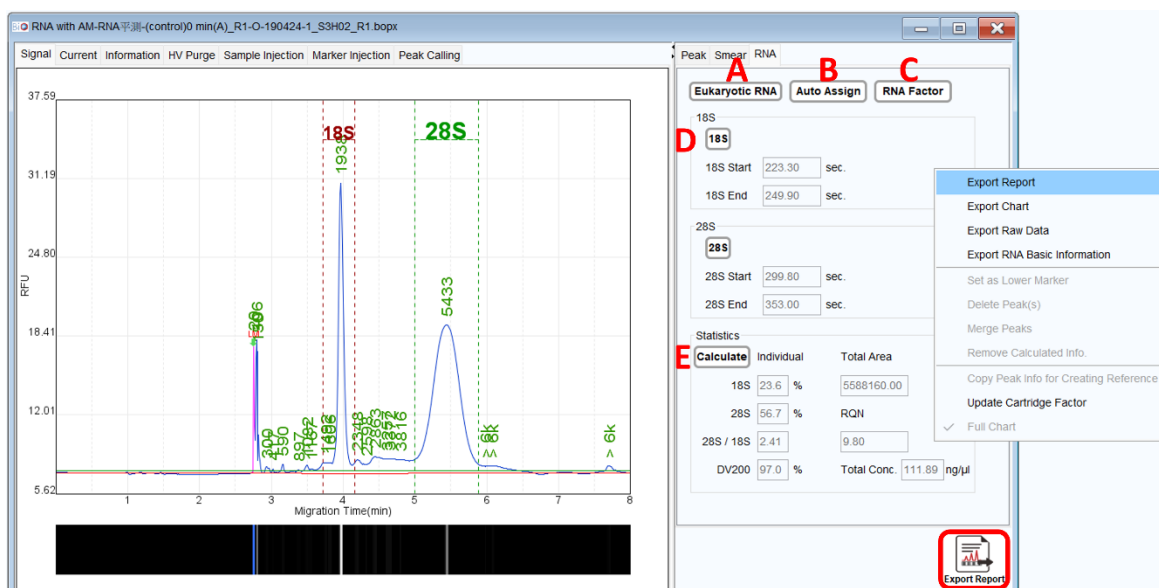

Figure 73 RNA Quality Check Panel
- To choose either Eukaryotic RNA or Prokaryotic RNA, click on the **Eukaryotic RNA** button (Figure 73 A)
- The systems will **Auto Assign** 18S/28S RNA (Eukaryotic) or 16S/23S RNA (Prokaryotic) based on your selection (Figure 73 B). If the margins do not properly cover the RNA area, you can manually drag them to the correct positions.
- To save the settings, click on the **RNA Factor** button to edit and save the RNA factor table (Figure 73 C).
- By clicking the 18S and 28S or 16S and 23S buttons, you can either hide or show (by default) the rRNA assignment on the electropherogram (Figure 73 D).
- Click on the **Calculate** button, and the 28S/18S or 23S/16S ratio, along with the RQN (RNA Quality Number) will be displayed (Figure 73 E).